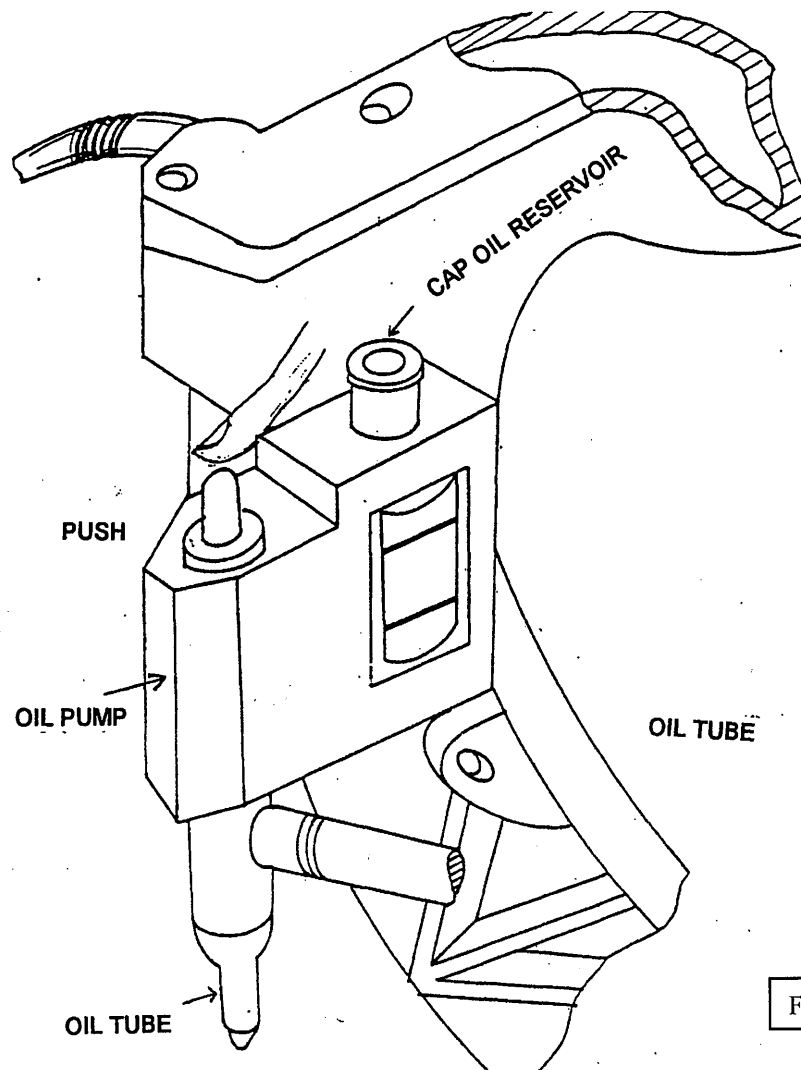

Fig. 03
C. Oiling : (See also Fig. 03)